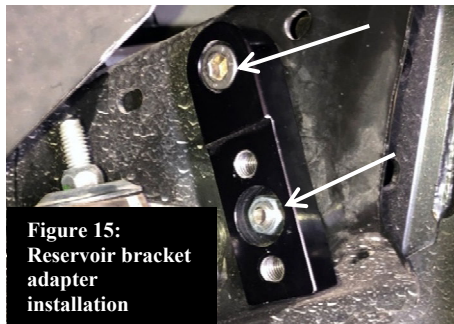

Figure 15:
- T. Swing the Reservoir Bracket Adapter right side up and screw the M8x1.25 (or 1/4"-20) SHCS into the threaded hole in the chassis. Use a 6mm hex driver (or 3/16 hex driver if using the 1/4"-20 SHCS). Using a 7/16" socket, tighten the Hex nut, 1/4"-20. Refer to Figure 15.